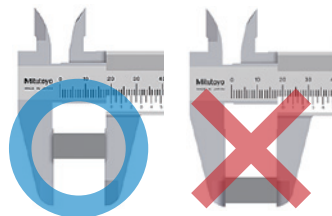

Fig. 5
2. Make sure to use consistent thumb placement and apply constant force during measurement, and measure an object as close as possible to the root of the jaws. It is better to avoid measurement with the tip of the jaws to avoid Abbe error. (Fig. 5)